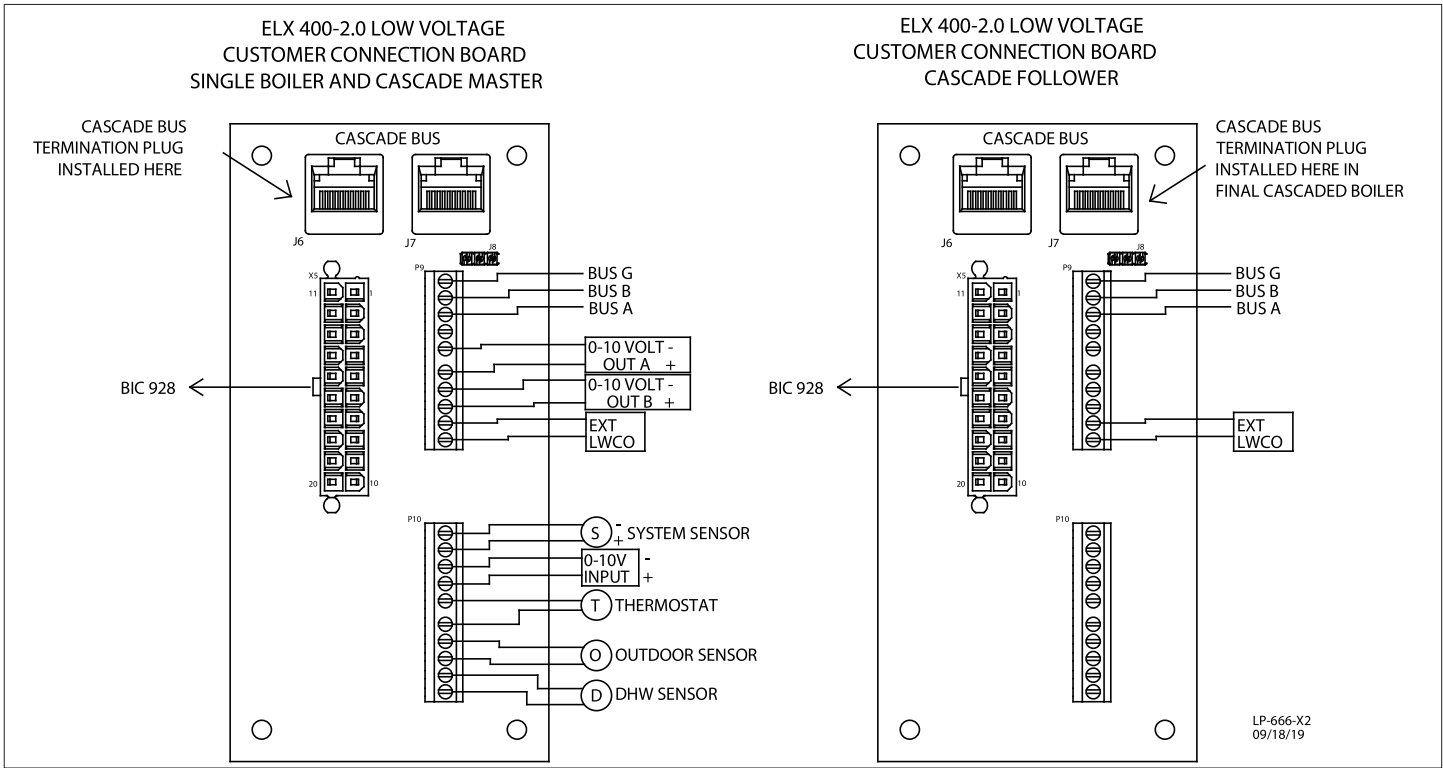

Figure 33 - Cascade Master and Single Boiler Low Voltage Wiring, and Cascade Follower Low Voltage Wiring
1. Connect the room thermostat to the terminals marked TT- and TT+ of the Field Connection Board (shown in Figure 33). Alternately, any dry contact closure across these terminals will cause the boiler to run. Caution should be taken to ensure neither of the terminals becomes connected to ground.
1. If using an outdoor sensor, connect wires for sensor to the terminals marked OUT- and OUT+, shown in Figure 33 of the Field Connection Board. Caution should be used to ensure neither of these terminals becomes connected to ground.
2. Connect the indirect tank sensor (7250P-325) to the terminals marked DHW- and DHW+, shown in Figure 33 on the Field Connection Board of the Master boiler.
NOTE: Shielded three-conductor cable may be used as an alternate method to connect cascade wiring. Connect the three wires of the shielded cable to the screw terminals labelled BUS A, BUS B, and BUS G. Observe proper polarity across all cascaded units. See Figure 33.
6. Connect the system pipe sensor to the terminals marked SYS- and SYS+. See Figure 33.
2. Connect a building management system or other auxiliary control signal to the terminals marked 0-10V+ and 0-10V- on the Field Connection Board (shown in Figure 33). Caution should be used to ensure that the 0-10V+ connection does not become connected to ground.